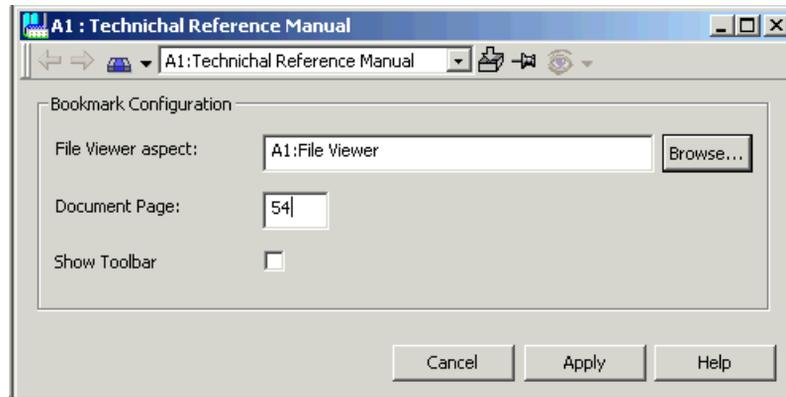
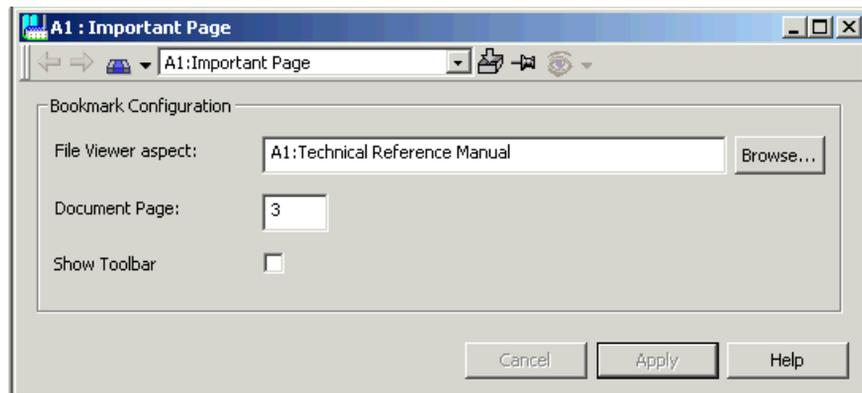

Figure 295. General Bookmark - Important Page
Figure 296. An Important Page in a Technical Reference Manual
2. Give it a proper name that identifies the page in the document, you want to enter, see Figure 295 and Figure 296.